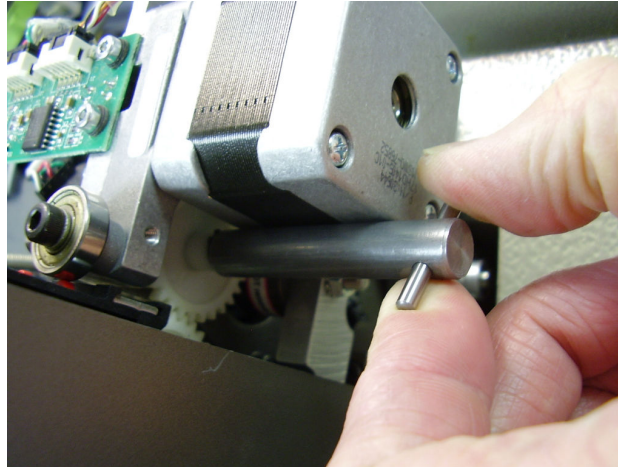

Figure 3
9. Using the T-handle on the tool, **finger tighten (using tips of thumb and forefinger only)** the shaft only. See **Figure 3**.